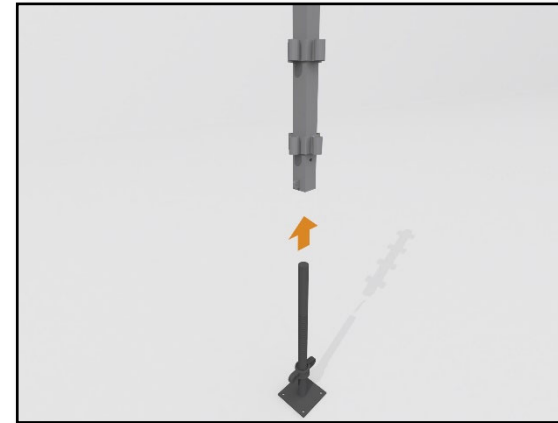

Fig. 17 – Scaffold Jack to Node Post
9.1.3.1 Slide the threaded Scaffold Jack into the bottom of the Node Post. *Fig. 17 – Scaffold Jack to Node Post*